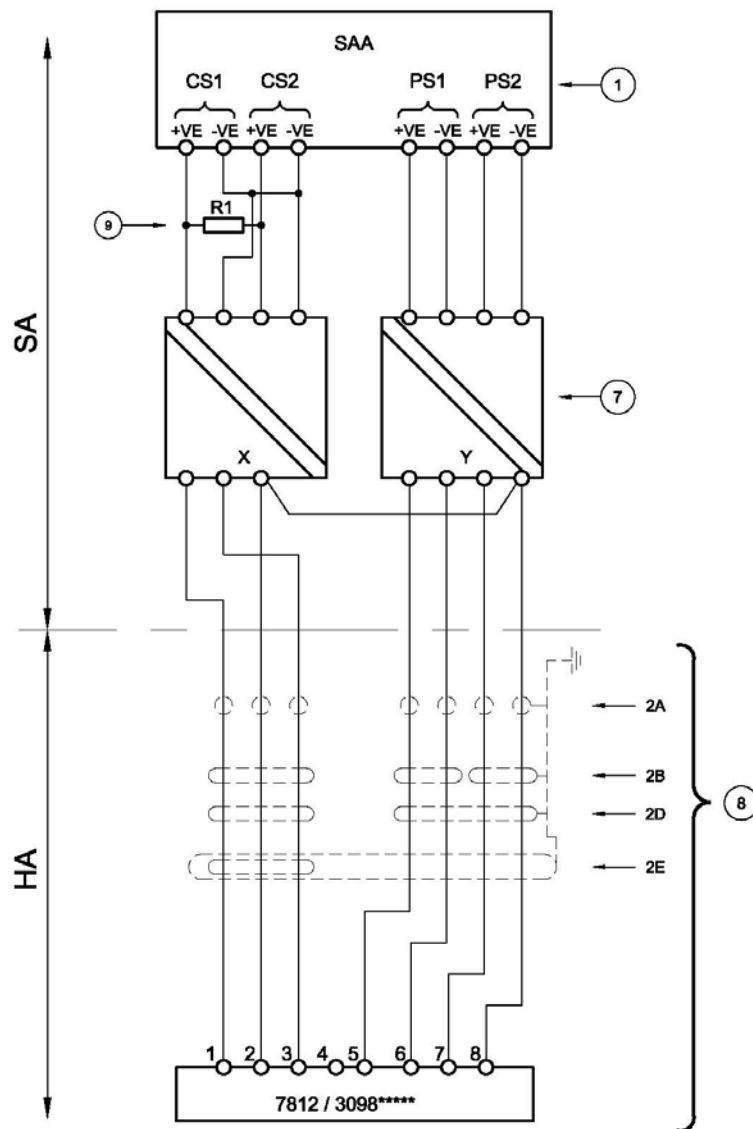

FIG 3
- Fig 3;- System wiring for 3 wire Isolating Interface Units